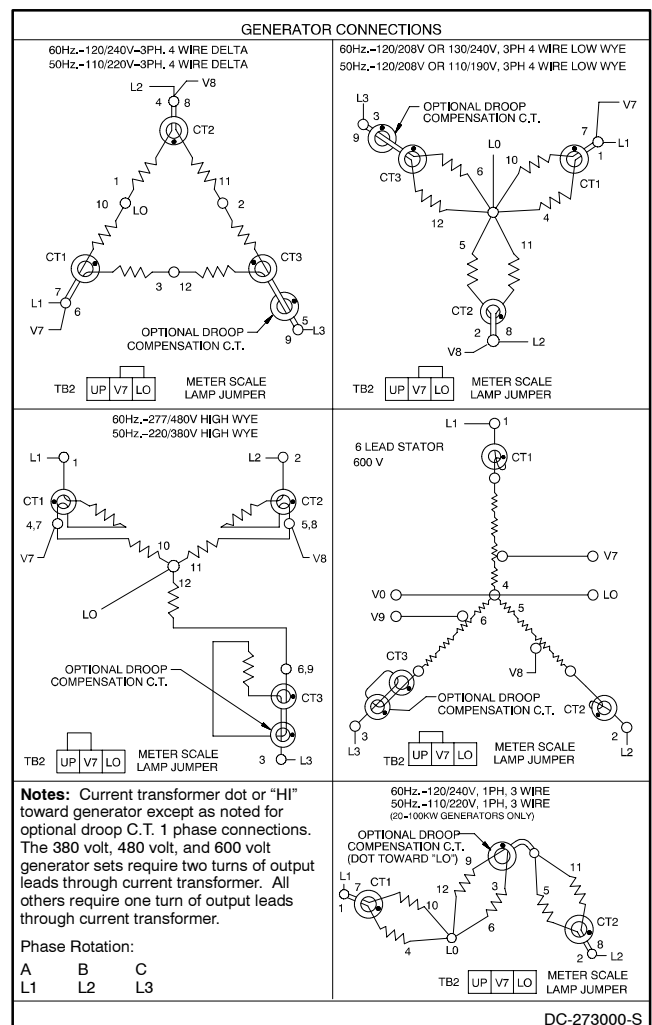

Figure 2 Generator Set Connections
6. Install the stator leads through the reactive droop compensator current transformer according to the application as shown in Figure 2.